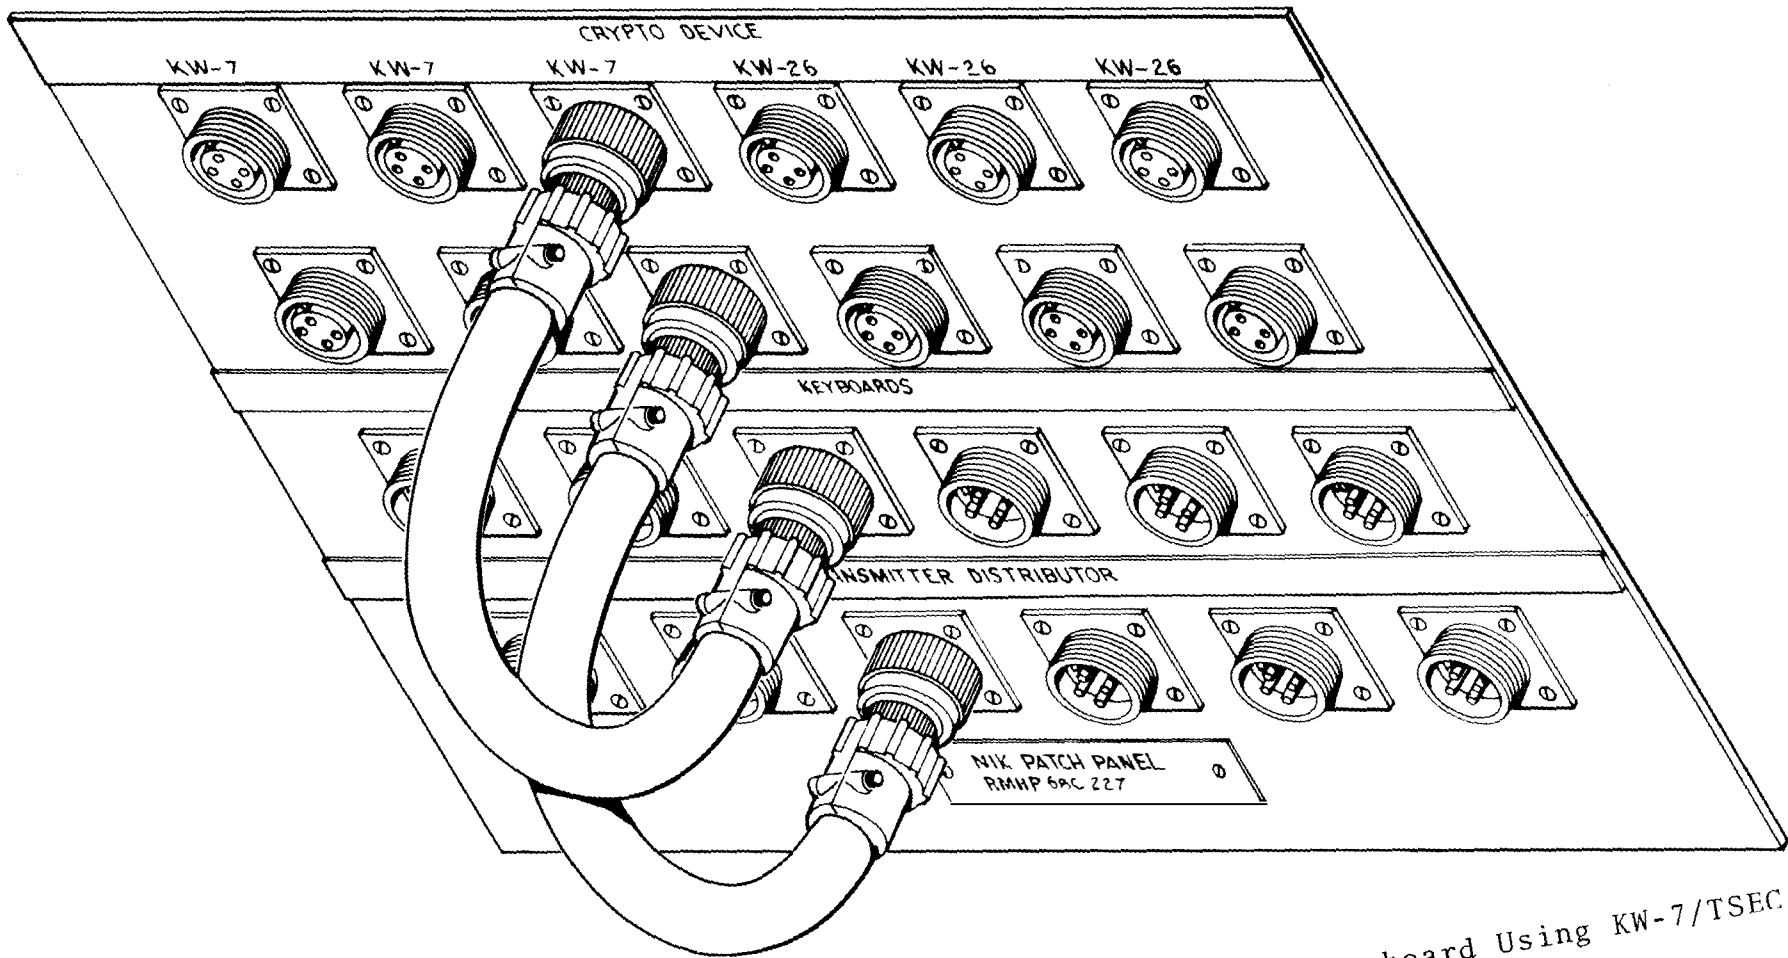

Figure 3.1 Series Patching For Transmitter-Distributor and Keyboard Using KW-7/TSEC
1. Figure 3.1 through 3.3 shows the patching required for operation of a keyboard and transmitter distributor in series.